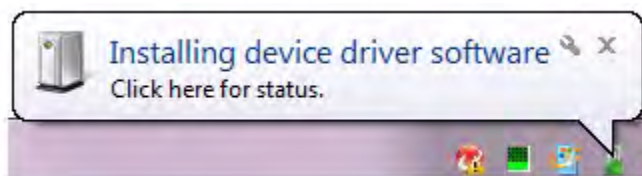
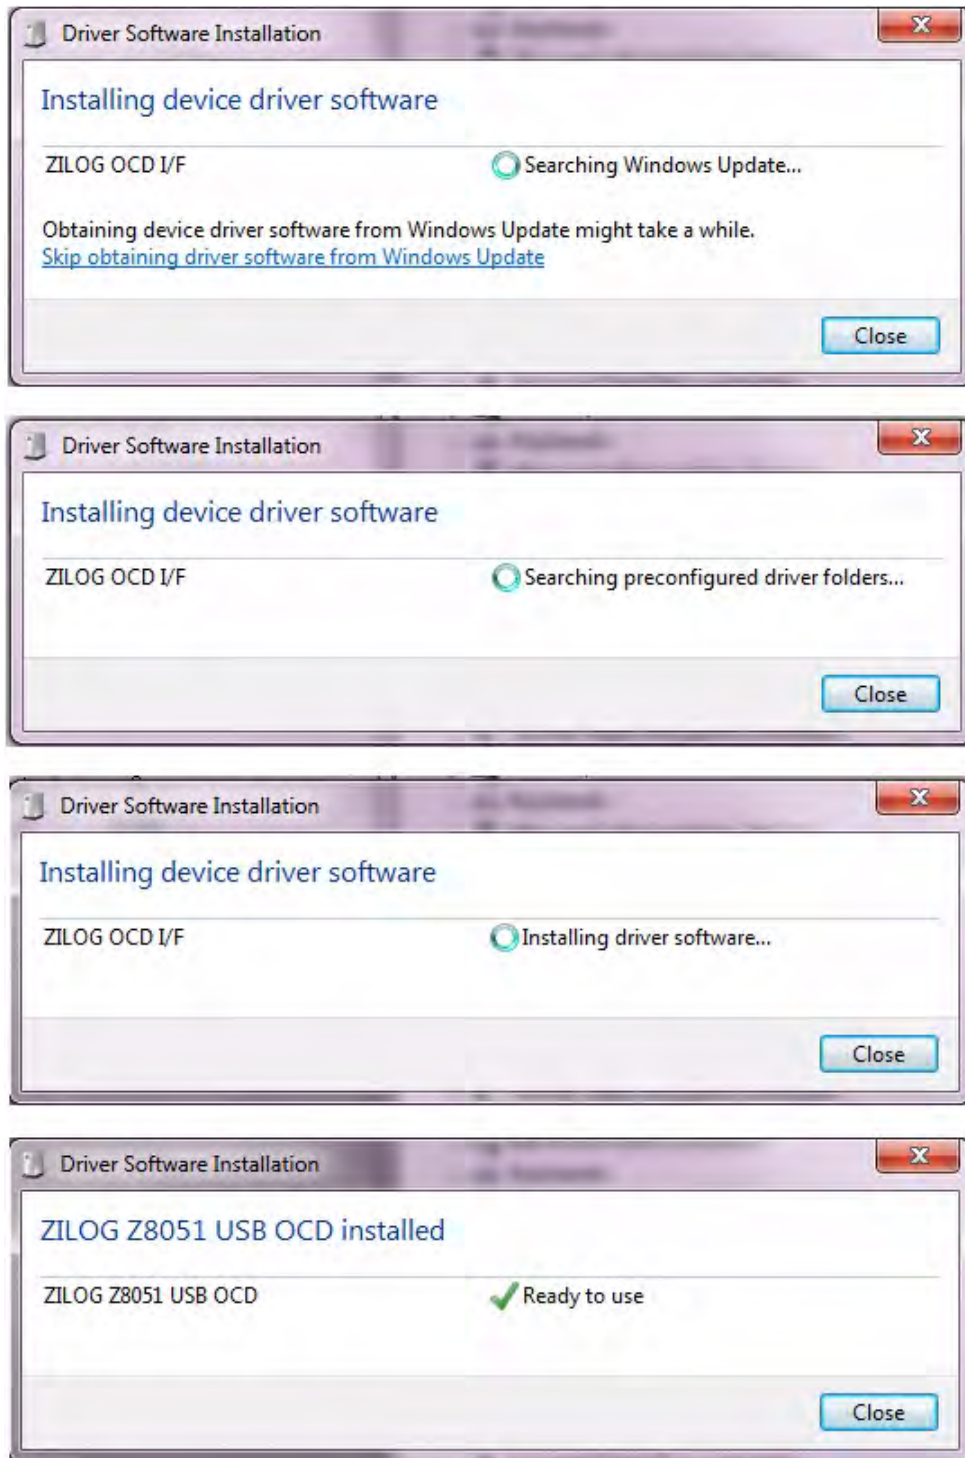

Figure 94. Install Device Driver Dialog, Windows 7
Figure 95. Driver Software Installation Dialog, Windows 7
2. After the PC detects the new hardware, it will display the *Installing device driver software* dialog shown in Figure 94. Click within this dialog to display the installation sequence of the driver software, which is diagrammed from top to bottom in Figure 95.